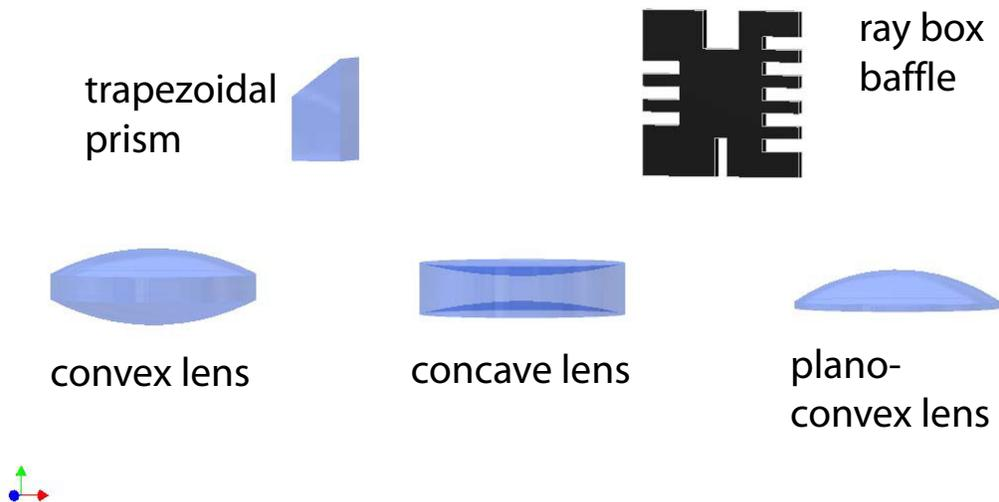

Figure 28: Components used with the ray box: lenses, prism, and baffle.
- **Snell's Law:** Arrange the baffle (see figure 28) on the ray box so a single ray appears. On top of a white piece of paper, place the trapezoid prism so that the ray passes through undeflected. Then rotate the prism roughly (precision is not important!) 45° as in figure 29. Notice that there are actually two interfaces where the laws of ray optics apply: the front interface and the back interface. The light ray from the ray box is incident on the front surface, is reflected off of the front surface, and is also transmitted through the front surface inside the prism. You will be measuring the angles of these three rays to verify the laws of ray optics. These laws could also be verified for the back interface, by realizing the ray inside the prism, which is the *transmitted* ray according to the front interface, is now the *incident* ray with respect to the back surface.